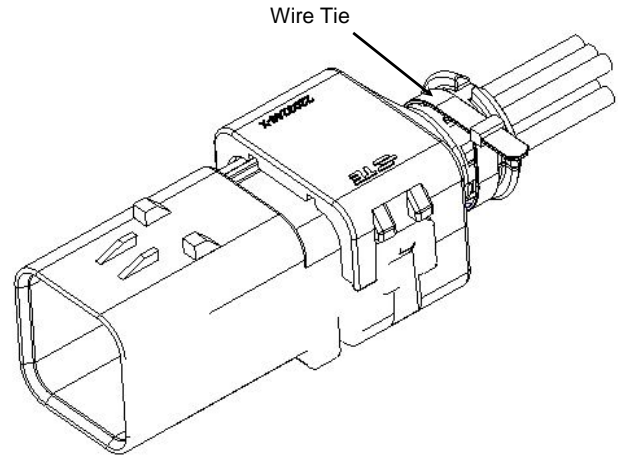

Figure 6
- For additional strength, a wire tie may be applied at the wire exit. Figure 6 shows the wire tie wrapped around the circumference of the wire exit, clamping the two halves of the backshell together.
6. If a smooth exit elbow is used, a wire tie may be applied at the wire exit for additional strength, as is done for the smooth exit backshells in step 8 of section 3.A. The wire tie can be wrapped around the circumference of the wire exit, clamping the two halves of the elbow together, similar to what is shown in Figure 6.